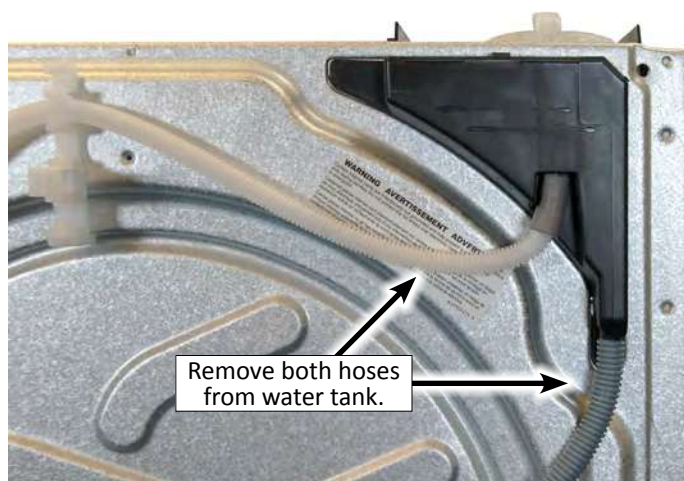

Figure 1
3. From the back of the dryer, disconnect the inlet and outlet hoses from the water tank housing (see Figure 1).